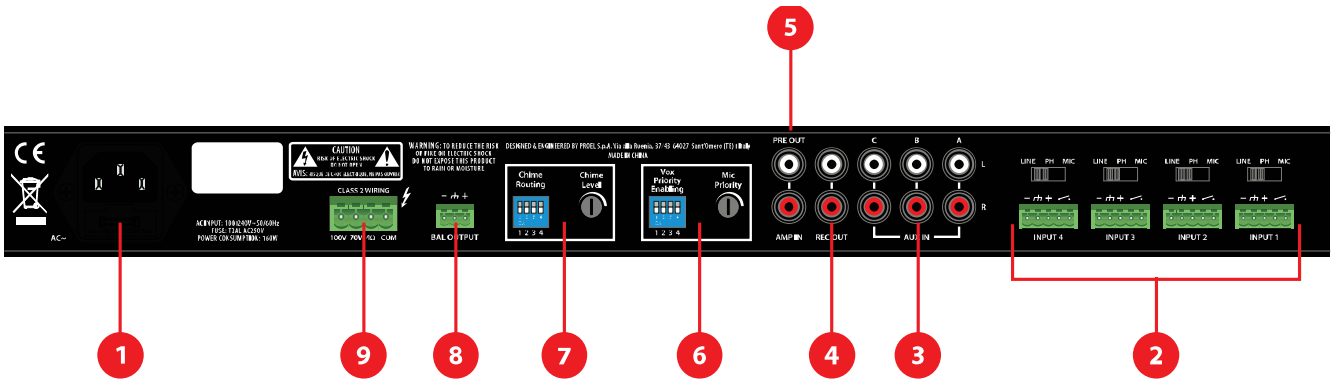

Fig. 2
Pressing the A/B/C buttons respectively enables the AUX A, B and C inputs (**fig.2, ref.4**). The enabled input is shown by the lit led.
Each input has a “Dry Contact” that has the functions “Chime Activation” and “Force Input Muting”. These functions can also be activated simultaneously and are subjected to the (ON – OFF) position of the dip switch (**fig.2, ref.6 e 7**):
The amplifier will play an alert sound from the loudspeakers line when the contact is closed (**fig.3 ref.C**) with the relative dip-switch PIN ON (**fig.2 rif.7**).
The control forces the muting of AUX inputs and other inputs (**fig.2, ref.2**) with the relative VOX PIN (**fig.2, ref.6**) OFF when the contact is closed (**fig.3 ref.C**). Inputs will remain mute while the dry contact remains closed. This function is particularly useful with very weak audio signals, which may cause constant connections/disconnections of the VOX function, resulting in alternating the signal output.
*Each INPUT 1 ÷ INPUT 4 has a VOX function that can be switched on and off using the PIN (**fig.2, ref.6**): while the VOX circuit of one of the channels with VOX ON (enabled) detects the presence of an audio signal on the relative input (**fig.2, ref.2**), the AUX channels (**fig.2, ref.3**) and the channels with VOX OFF (disabled) will be muted, while all the channels with VOX ON will be mixed in the output.*
Each INPUT 1 ÷ INPUT 4 has a VOX function that can be switched on and off using the relative PIN (**Vox Priority Enabling**): when the VOX circuit of one of the channels with VOX ON (enabled) detects the presence of an audio signal on the relative input (**fig.2, ref.2**), the AUX channels (**fig.2, ref.3**) and the channels with VOX OFF (disabled) will be muted, while all the channels with VOX ON will be mixed in the output.
Connect the constant impedance line (4Ω) between the “COM” and “ 4Ω ” terminals (**Fig. 2, Ref. 4**).
Connect the constant voltage line (100V or 70V) between the “COM” and “100V” (or “70V”) terminals (**Fig. 2, Ref. 4**).